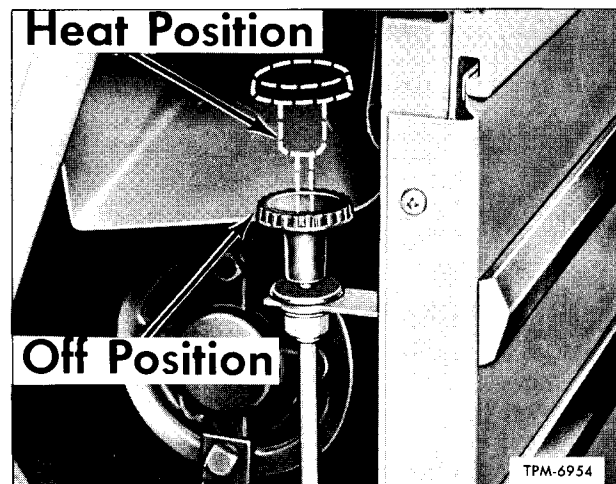
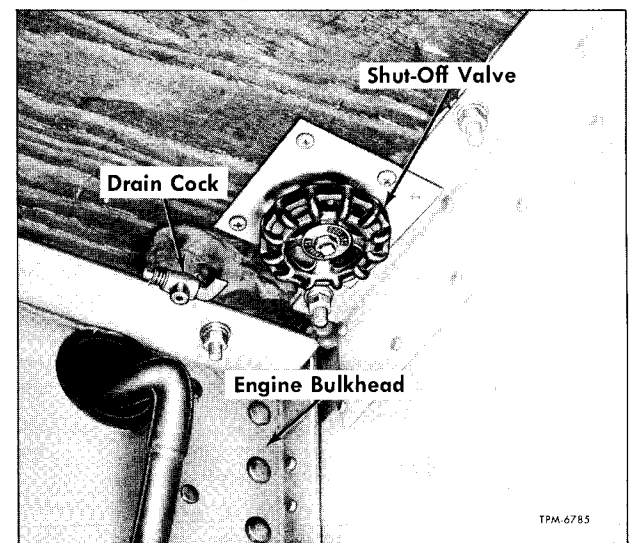

Figure 8—Driver's Heater and Defroster Water Valve Control
Figure 9—Shut-off Valve and Drain Cock At Engine Bulkhead
Flow of water through the dash heater core is controlled by the manually adjusted control valve (fig. 8). Water modulation valve is air-operated, the air pressure delivered to it being graduated by the Grad-U-Stat, which is sensitive to inside coach temperature. After circulating through heater cores, water flows through the return line to the suction side of the engine water pump. Shut-off (gate) valve (fig. 9), located in return line provides manual means of closing or opening line circuit, to permit working on engine system without draining heating system (or vice versa). Valve is located underneath floor ahead of engine bulkhead at left side of coach.
1. If heating system is to be drained without draining engine cooling system, close shut-off (gate) valve (fig. 9) located underneath floor ahead of engine bulkhead at left side of coach.
4. Open drain cock (fig. 9) near heater line shut-off valve, to drain supply line between engine and heating system pump.
1. Make certain all drain cocks mentioned previously under "Draining," are closed, that heater line shut-off valve (fig. 9) underfloor and defroster heater valve (fig. 8) are open.